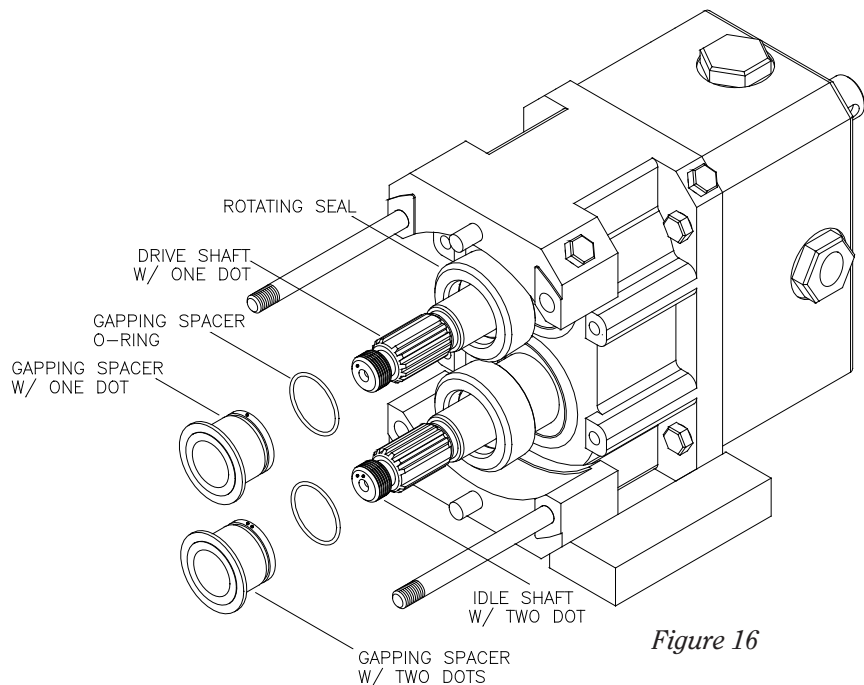

Figure 16
- Install the gapping spacer with one dot onto the drive shaft. Install the gapping spacer with two dots onto the idle shaft (*Figure 16*).